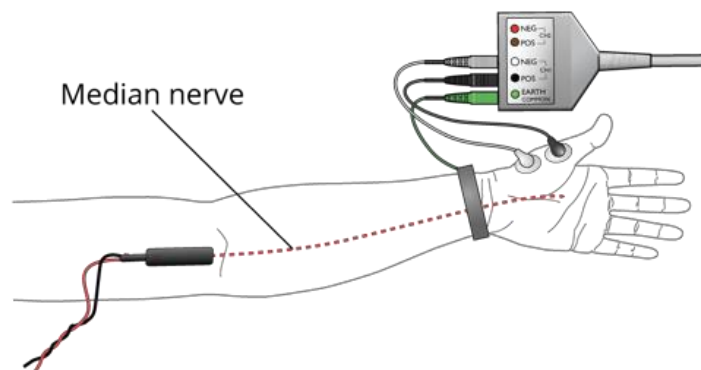

Figure 9. Evoked EMG Setup at the Elbow. Image courtesy of ADInstruments ©
4. Increase the Current to 8.0 mA. Click **Start** to apply the stimulus. If a response is not recorded, have the volunteer move the electrode to a different spot on the nerve (Figure 9)
6. Move the Stimulating Bar Electrode over the median nerve at the elbow (Figure 9). Mark the spot in between the pressure imprints on the skin. Everything else will remain the same.